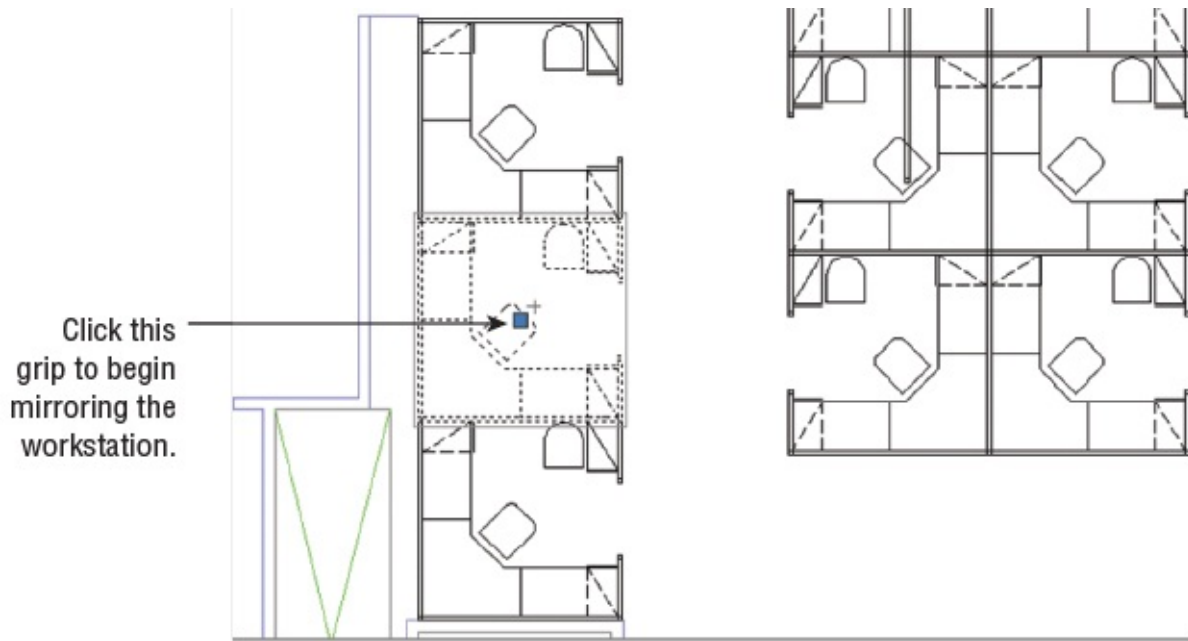

FIGURE 4.19 Selecting the grip to mirror the group
2. Click the grip in the middle of the workstation, as shown in Figure 4.19.